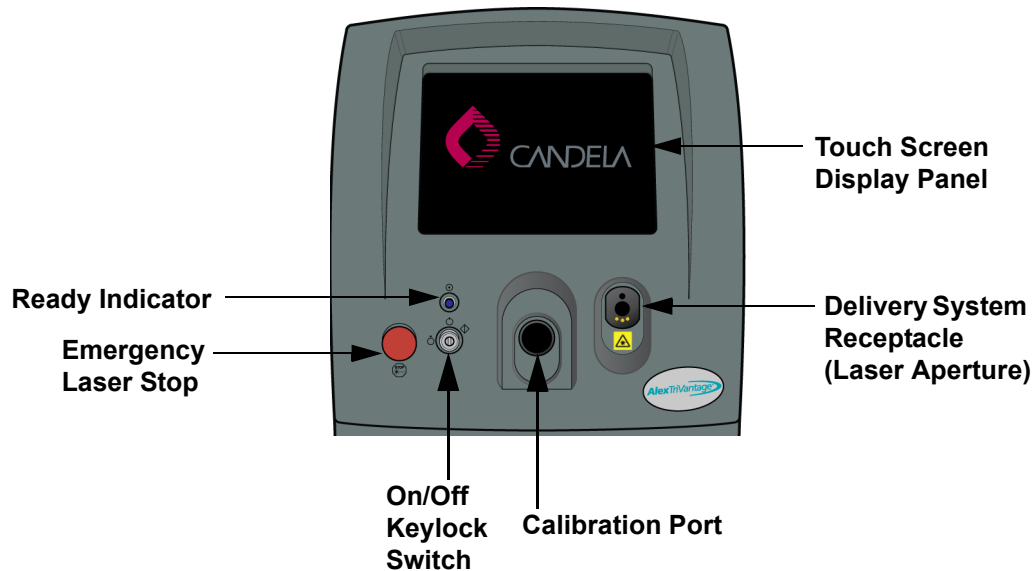

Figure 2-3: Controls and Connectors on the Front Panel
- ▶ ▶ **Figure 2-3** shows a detailed view of the controls and connections and a brief description of each one.